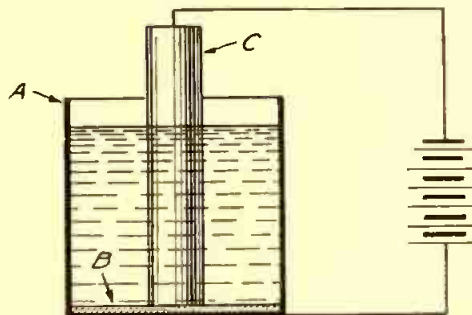

Fig. 1.
Referring to Fig. 1, A is a tin can; almost any size will do very well. In the bottom of the can is put a disc (B) of mica, celluloid, hard rubber or any insulator which is not affected by being immersed in water. C is as powerful a bar magnet as can be procured; it is better if it is of circular cross-section, as it will not interfere so much with the motion of the water.
in the illustration, Fig. 1), over which a solenoid has been slipped so as to
The construction is shown in Fig. 1. The anode (a) is an aluminum pin surrounded by a protective tube (b). The lower end of the anode (a) is at a distance of a few millimeters from the cathode (c) which is a fused alloy of potassium or sodium. Current is supplied through platinum wires (d) and (e). The